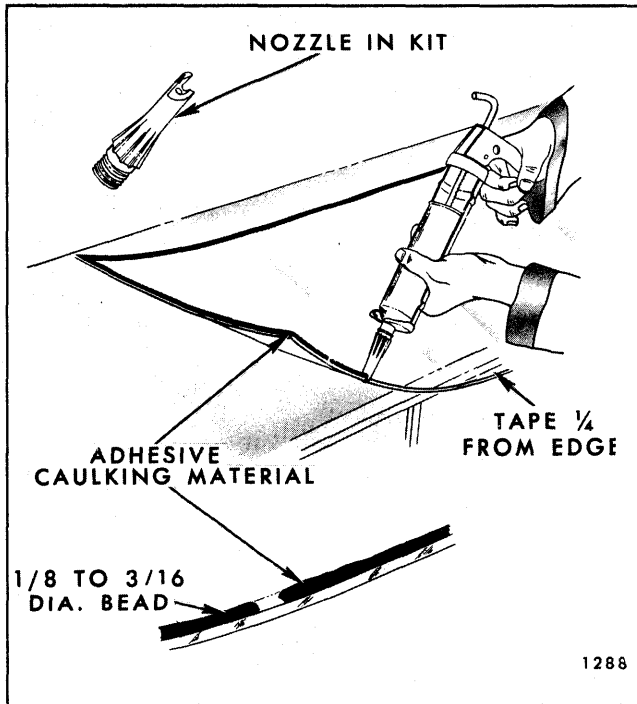

Fig. 11-9-Adhesive Material Application - Short Method
7. Apply smooth continuous bead of adhesive material over entire inside edge of glass where primed in step 6. Material should be 1/8" to 3/16" in diameter (Fig. 11-9).